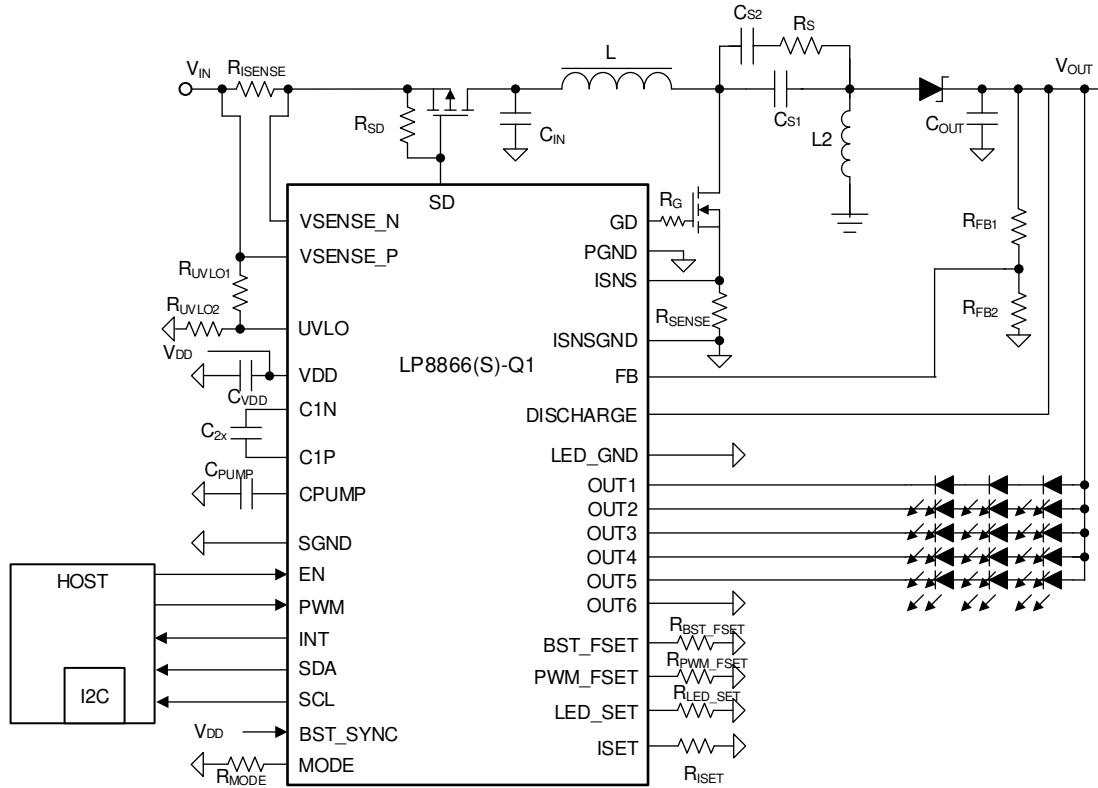

图 8-7. SEPIC Mode with Three LEDs in Series
**Figure 8-7** shows the critical part of circuitry: SEPIC components, the LP8866-Q1 internal charge pump for gate-driver powering, and powering/grounding of LP8866-Q1. Schematic example is shown below.